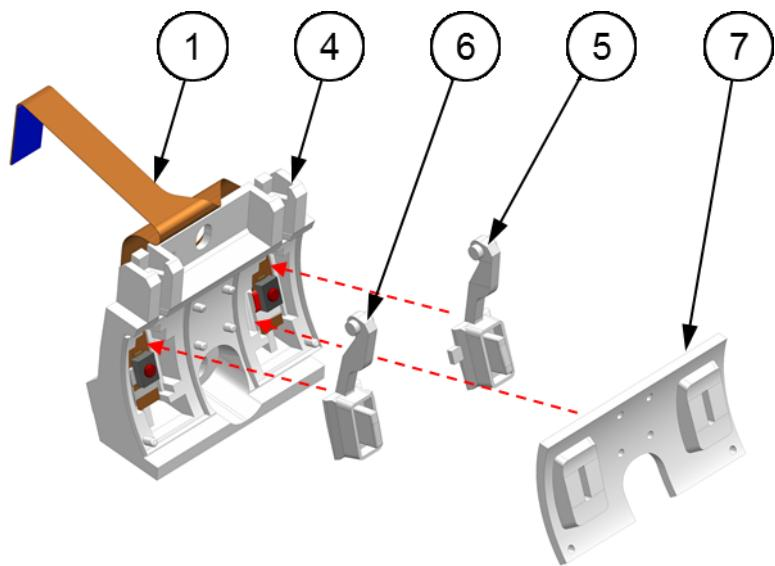

Fig. 68 Assembly of the syringe detection buttons
2. Insert the following parts to the **Microswitches case (4)**: the **Right microswitch button (5)**, **Left microswitch button (6)** and the **Buttons seal (7)** according to the orientation and red arrows directions from the **Fig. 68**.